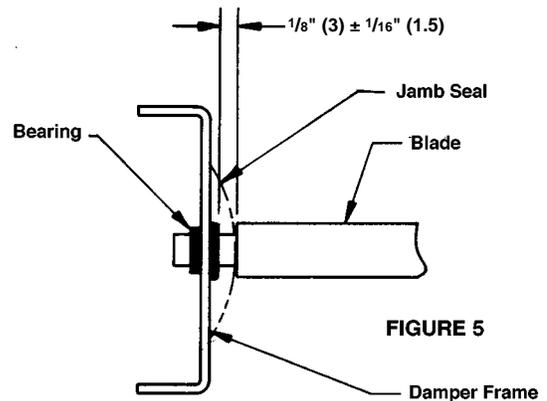

FIGURE 5
9. A clearance of $1/8"$ (3) $\pm 1/16"$ (1.5) must be maintained between bearing within frame and blade end. Move blade solidly against bearing on one side and measure clearance at other end of blade. See Figure 5. If jamb seals are present, compress to determine clearance.